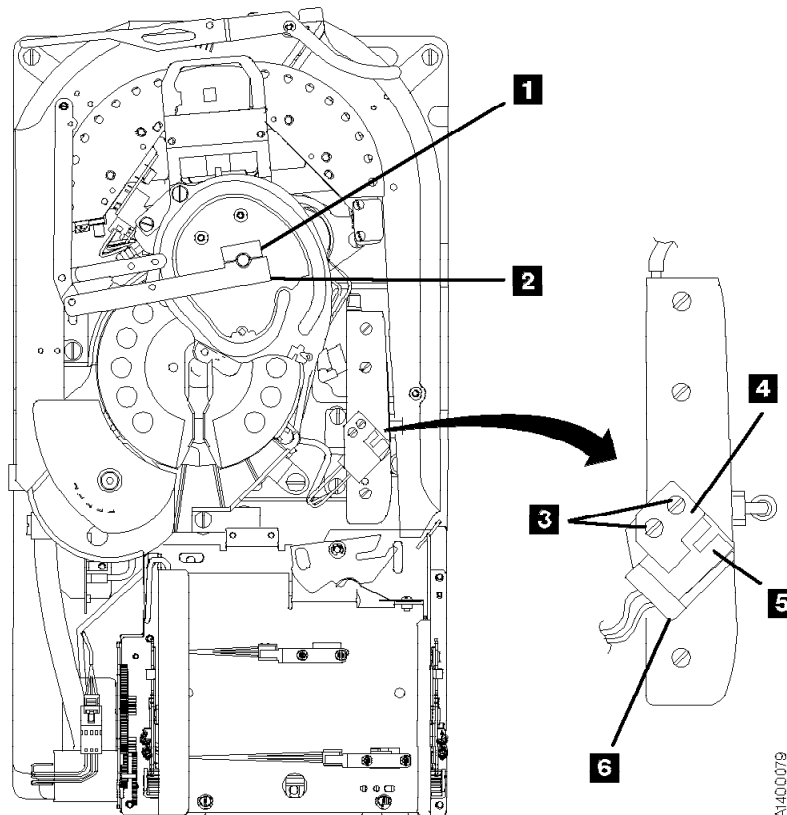

Figure 342. Tape Path A Sensor
3. See Figure 342. Position the pantocam arm **2** so the arm is away from the tape path A sensor **5**.